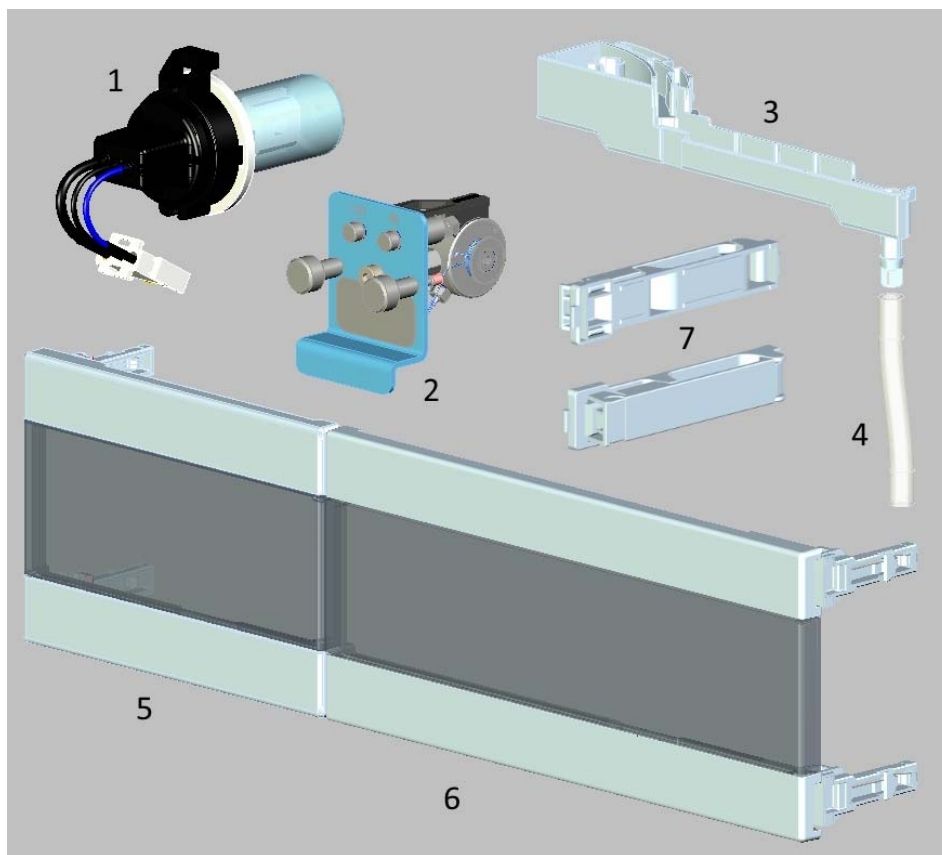

Figure 40 Overview of maintenance parts
5063-6527	Tubing assembly, i.d. 6 mm, o.d. 9 mm, 1.2 m (to waste) (see item 4 in Figure 40 on page 140)
5043-1013	Tubing Clip (see item 7 in Figure 40 on page 140)